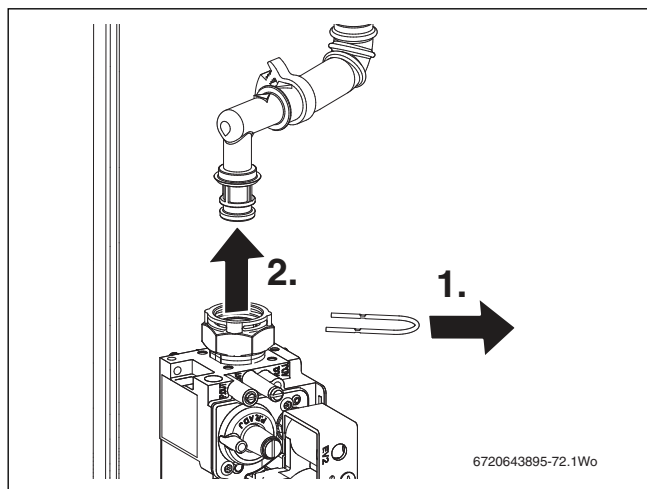

Fig. 73 Upper gas valve connection removal
1. Refer to figure 73 and remove the clip from gas valve outlet.